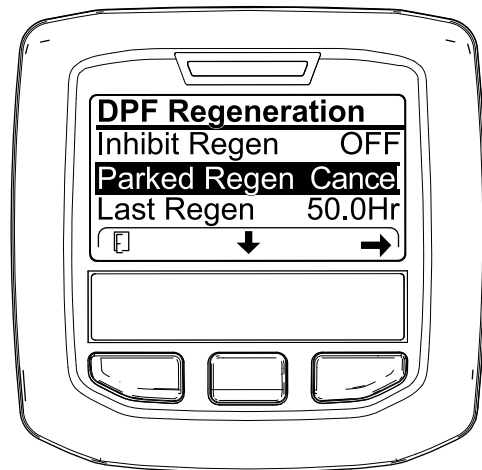
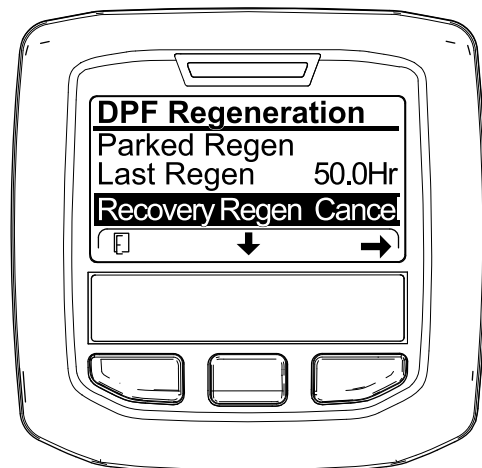

Figure 65
Figure 66
1. Access the DPF Regeneration menu (Figure 65).
2. Press the center button to scroll down to the PARKED REGEN CANCEL (Figure 65) or the RECOVERY REGEN CANCEL option (Figure 66).
3. Press the right button to select the Regen Cancel entry (Figure 65 or Figure 66).